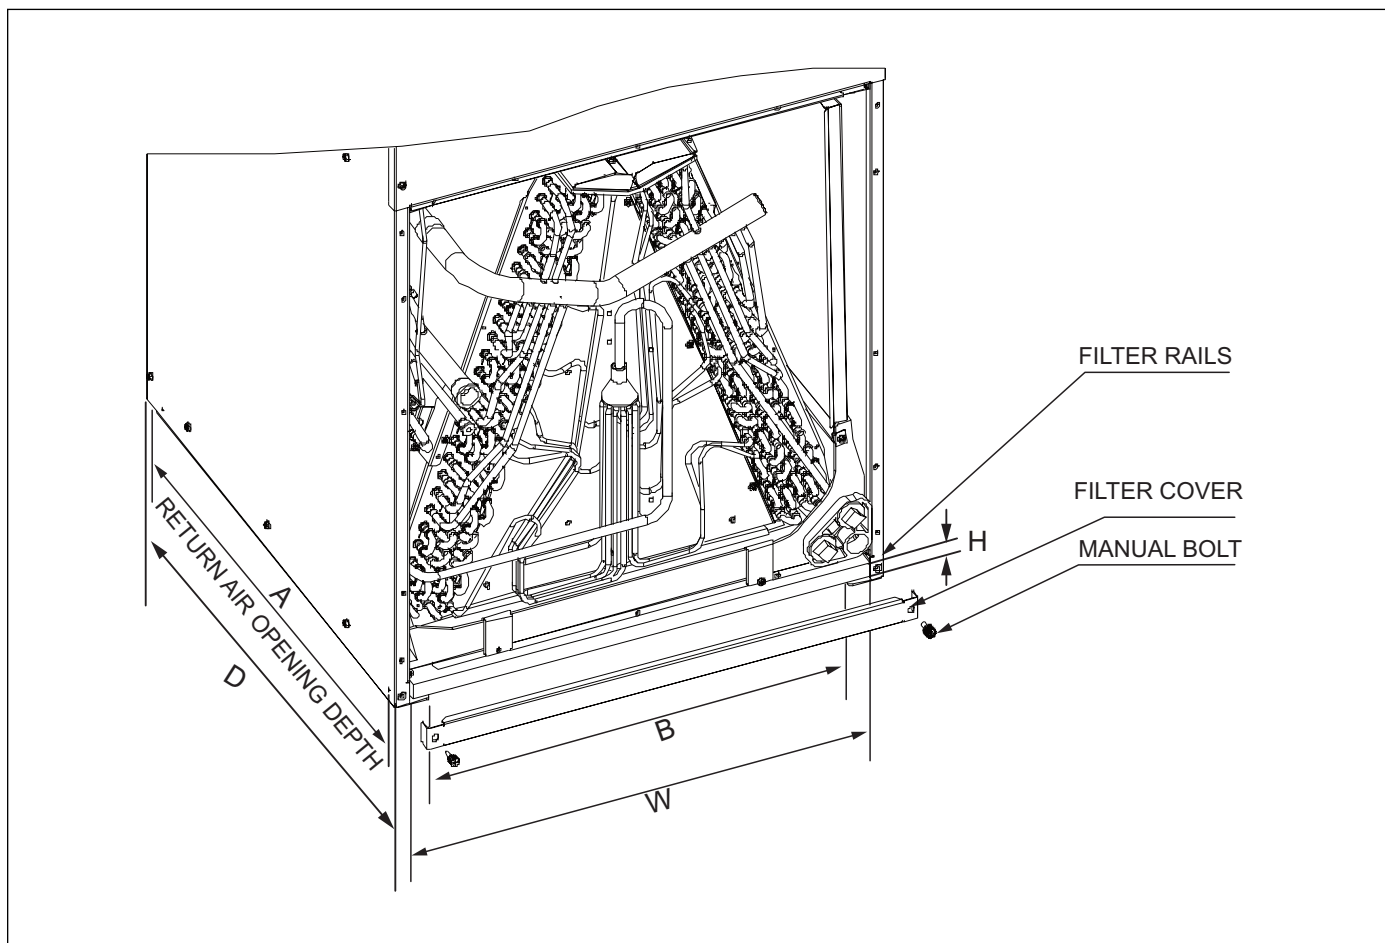

Figure 23 Filter installation
- Remove screws manually, remove air filter cover, see Figure 23.